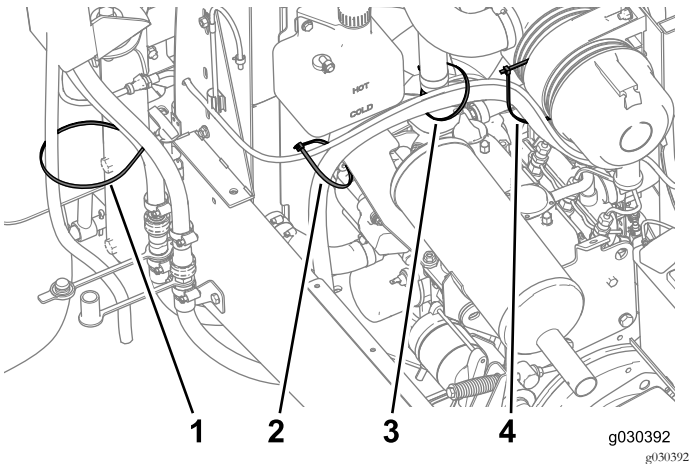

**Figure 41**
6. Connect the hoses from the cab to the hoses mounted to the machine (Figure 41).